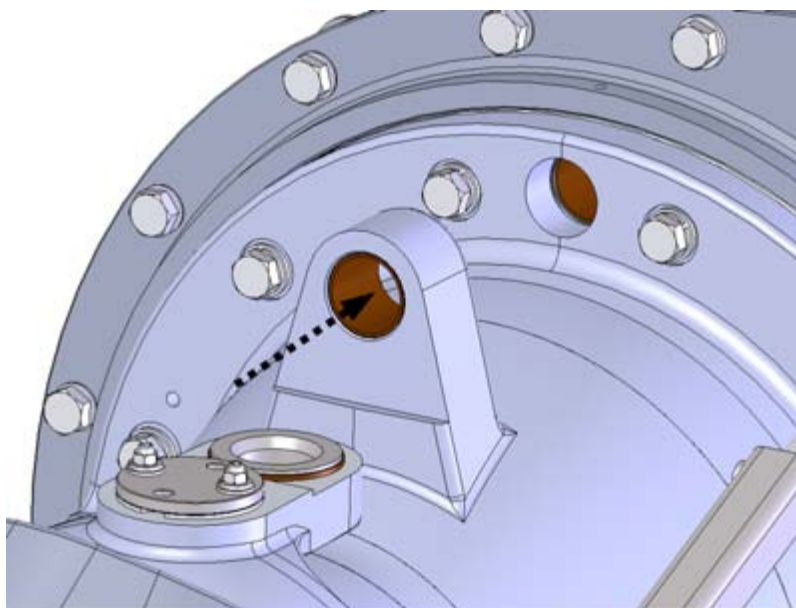

Figure 69. Removing the rear end bushing
1. Remove the old rear bushing by pushing it from the hole with a suitable mandrel (figure 69).